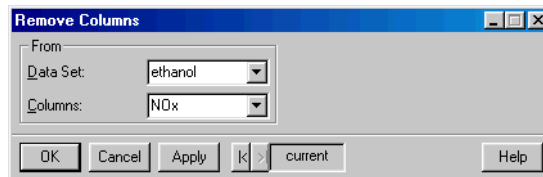

Figure 2.28: *The **Remove Columns** dialog.*
- From the main menu, choose **Data ► Remove ► Column**. The **Remove Columns** dialog opens, as shown in Figure 2.28.